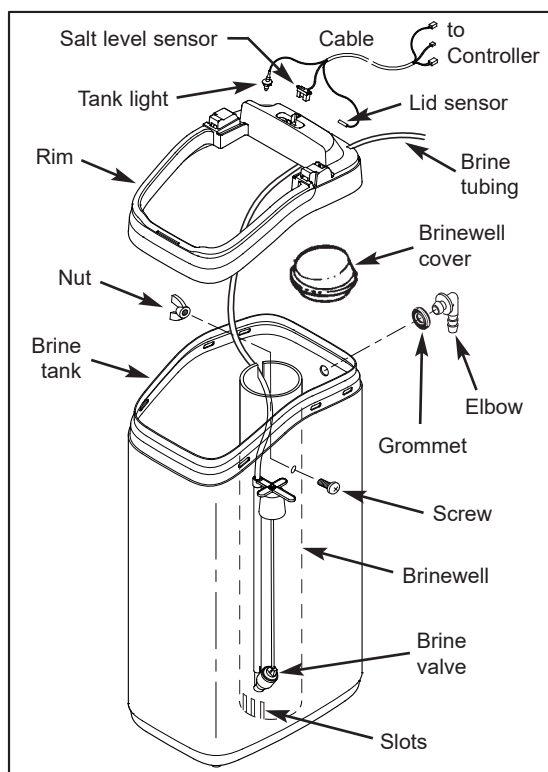

FIG. 4
- Snap the rim into place on the brine tank (See Fig. 4).
c. Lower the brine valve into the brinewell. Push the tubing into the brinewell top slot (Fig. 4) and route it out through the hole in the back of the rim.
f. Locate the brine tank cable, one end of which is shipped plugged into the back of the electronic controller (PWA). At the loose end of this cable, identify the tank light, salt level sensor and cover sensor. Insert each of these three items into their corresponding slots in the rim, as shown in Figure 4.
a. Route the tubing attached to the brine valve assembly out through the hole in the back of the rim (See Fig. 4).